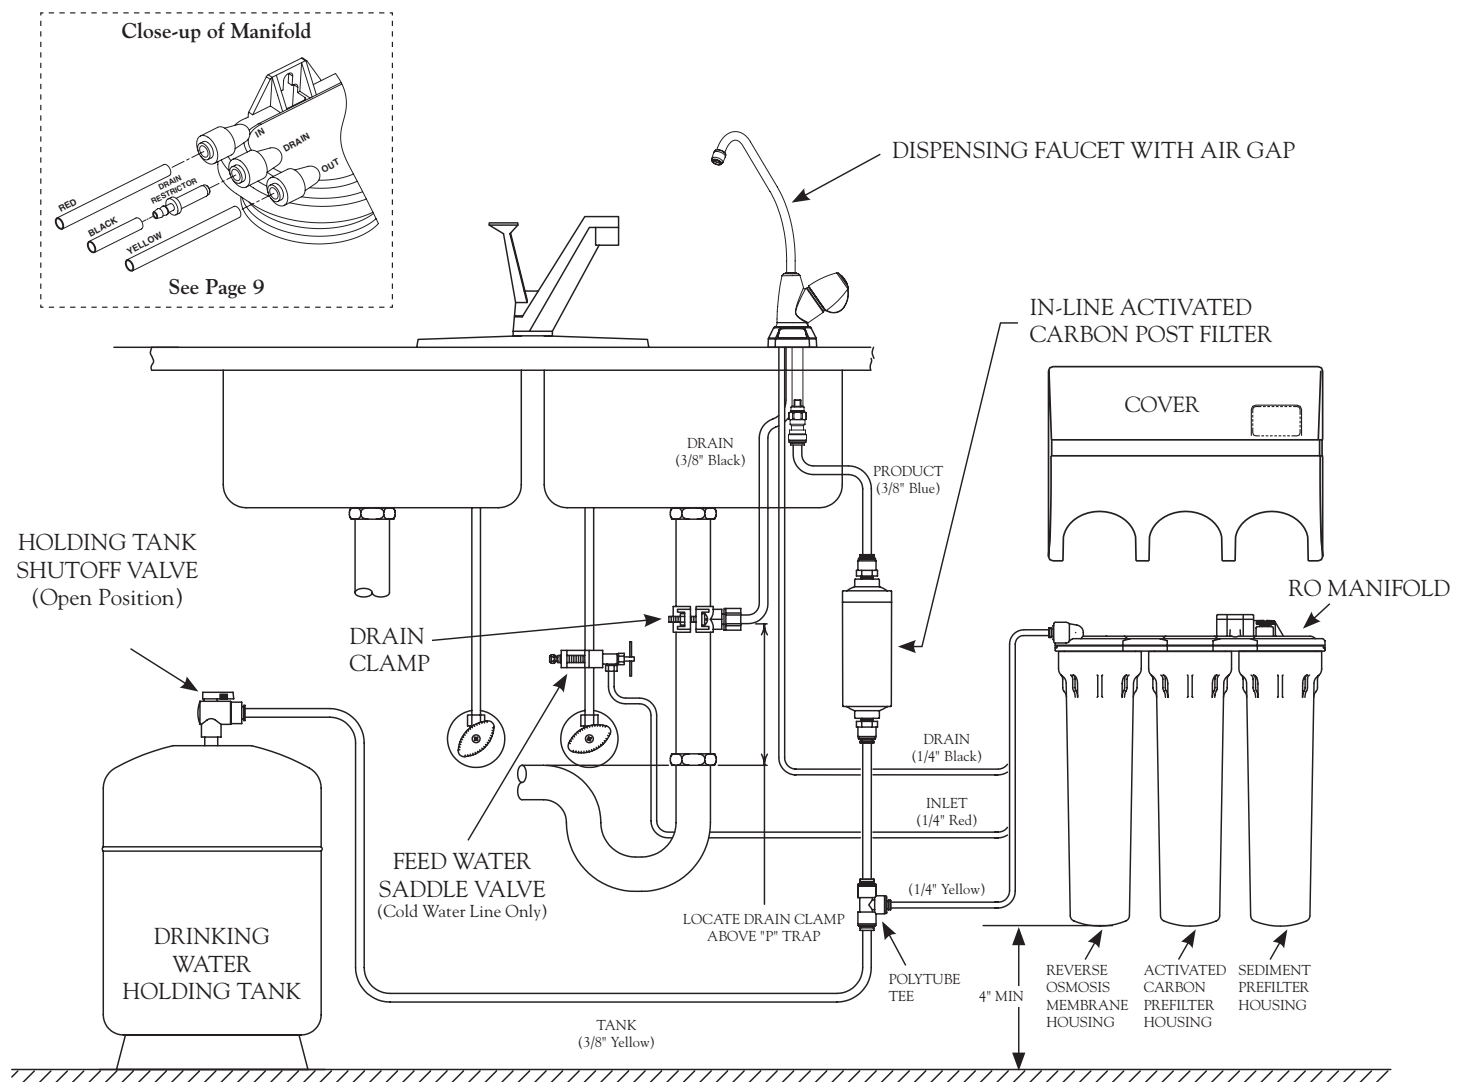

Figure 1
The following are instructions for discharging into the sink drain pipe. (Refer to Fig. 1.)
2. Locate the  $\frac{1}{4}$ " Red Feed Water Tubing. Remove the red plug from the fitting labeled "In" on the manifold and insert the tubing. Reference the special supplement sheet in the carton for proper connection of all tubing and removal of plugs. Run the tubing along its course to the Feed Water Saddle Valve, trim to length. (Refer to Fig. 1.)
2. Pull the cap/plug off the top of the tank where the Tank Shut-Off should go. (Refer to Fig. 1.)
4. Locate the ⅜" Yellow Tubing. Firmly press one end into the Holding Tank Shut-Off Valve and the other end into the tee. (Refer to Fig. 1.) The fittings will grab the tubing and seal it in place. Make sure the tubing is pressed all the way in to create a pressure tight connection.
5. Locate the ⅜" Blue Product Water Tubing attached to the Dispensing Faucet. Firmly press one end into the tee. (Refer to Fig. 1.) The fittings will grab the tubing and seal it in place. Make sure the tubing is pressed all the way in to create a pressure tight connection.